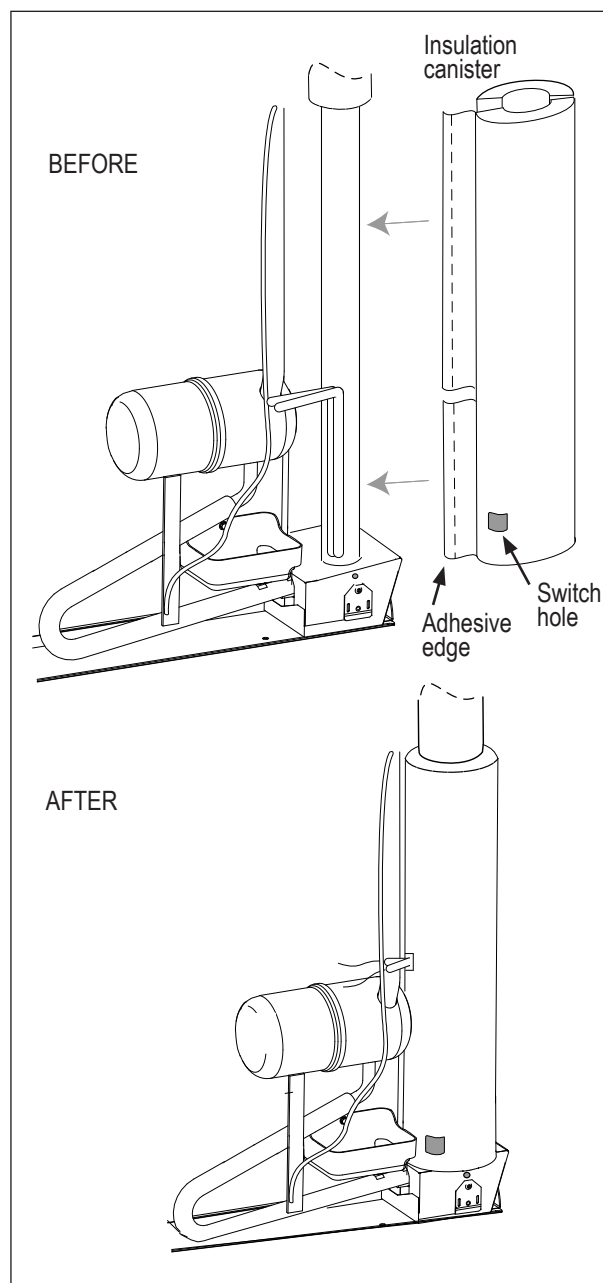

Figure 4. Installing New Insulation Canister
1. With the rectangular hole for the switch at the bottom of the new insulation canister, spread the canister open and carefully push the bottom half into place under the flue tube and heaters. Refer to Figure 4.